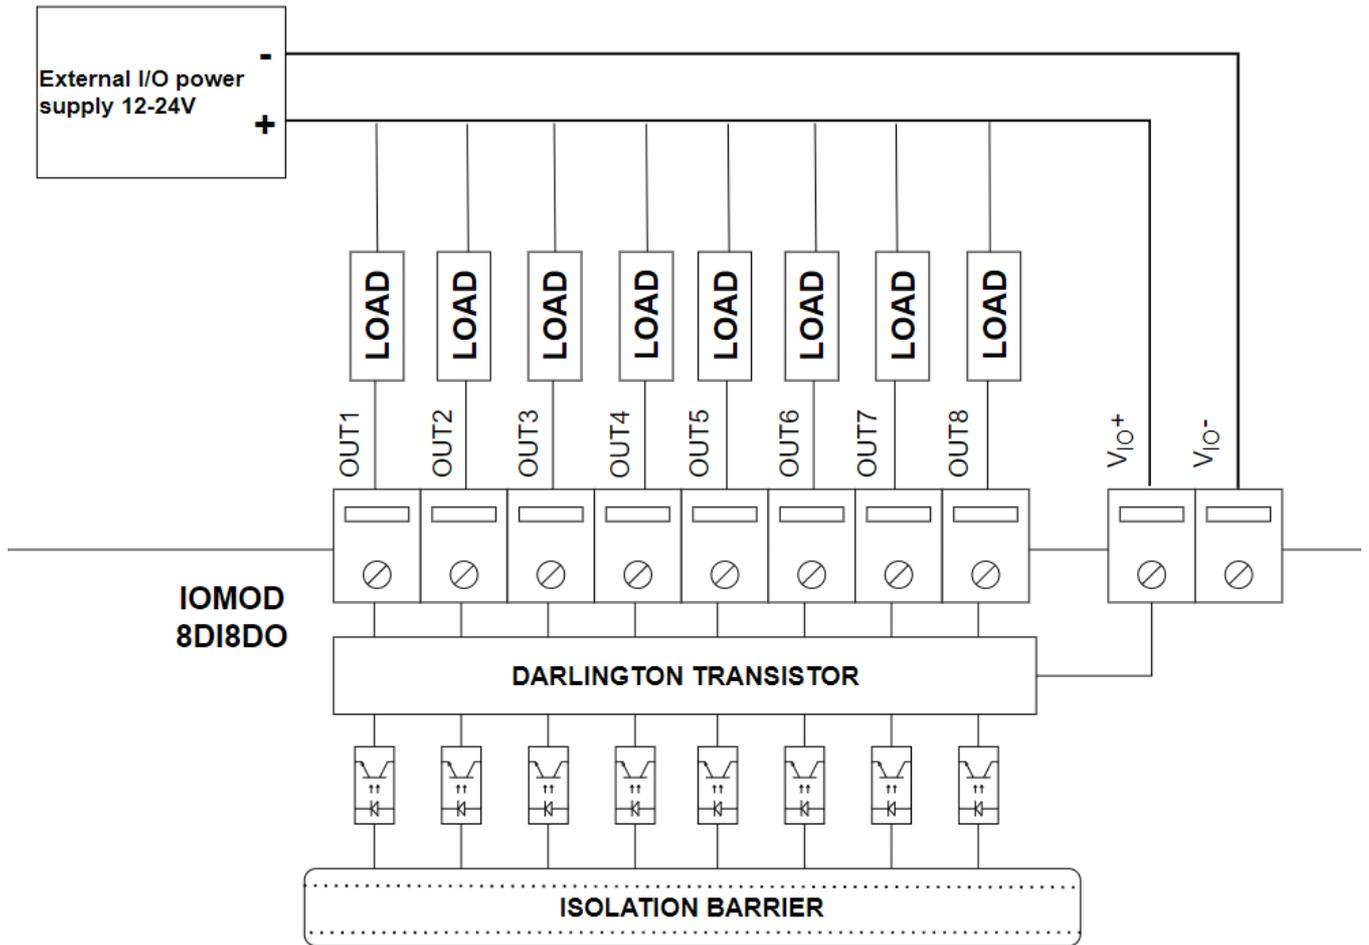

Fig. 4.1.2.1. Output configuration example
The outputs are the sink type (NPN), meaning they provide a path to ground. The load is connected between the output and the positive voltage. When an output is active, current flows from the power supply through the load to ground, the output state becomes "high" (1), and the corresponding status LED illuminates. A typical output application is shown in Fig. 4.1.2.1.